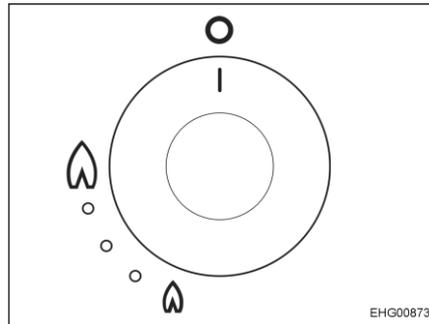

Fig. 127 Control knob for gas burners
- Press the control knob (Fig. 127) of the desired burner and turn it in an anticlockwise direction to the ignition position (large flame). On models with automatic ignition, ignition sparks are generated which ignite the escaping gas.